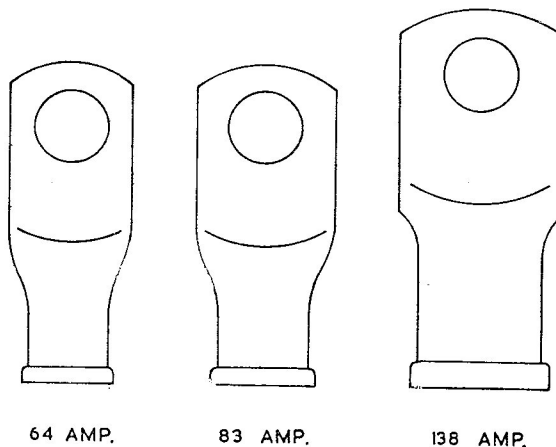

Fig. 9. Cable end fittings
20. These adapters, typical examples of which are shown in fig. 9, are provided to enable ferrules in one range to be used in terminal sockets of another range. One end of the adapter fits over the nipple of the cable end ferrule; the other end is of the size appropriate to the terminal socket. The adapters, which are listed in Appendix 1, have been developed to simplify modification work, and their use should be limited.
21. There are three types of lug adapters, shown in fig. 9, which enable cables in the 19 and 37-amp range to be connected on the heavy-duty terminals. These adapters have cable-entry ends designed to take two 19-amp. ferrules, four 19-amp. ferrules, and two 37-amp. ferrules, respectively.